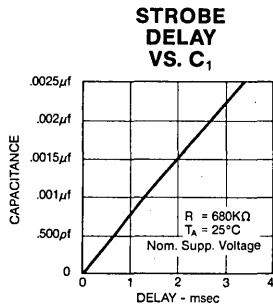

Fig. 5
- \* R1 (680KΩ), C1 (0.01μF) provide approx. 1.5 ms delay (see figure 5)